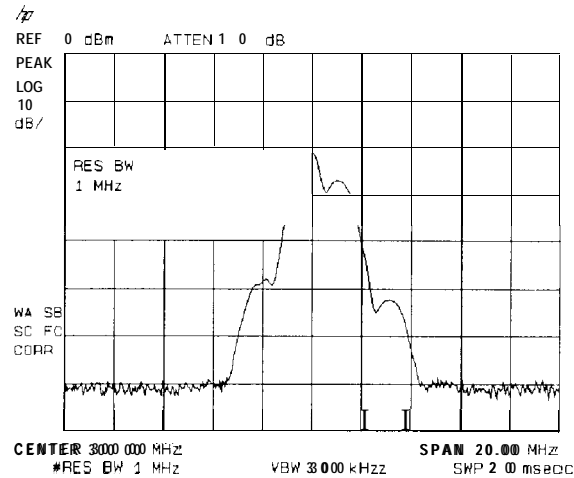

Figure 3-26. Viewing an AM Signal
2. First, center and zoom in on the signal in the frequency domain (see "Decreasing the Frequency Span Using the Marker Track Function"). Be sure to turn off the marker track function, since the marker track function must be off for zero span. See Figure 3-26.